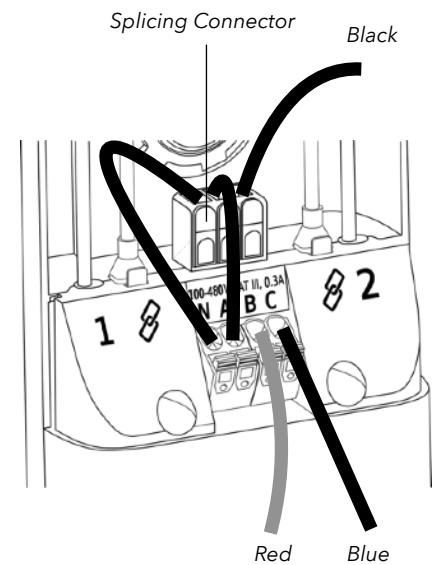

Fig 11
- Three-Phase Delta Panel. **Fig 11.**